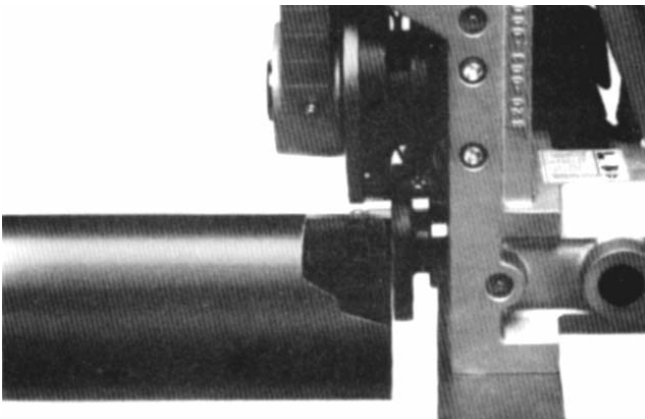

Figure 10 – Close-Up of Pipe Against Drive Roll Flange
3. Square pipe and pipe support to roll groover making sure pipe is flush against drive roll flange. (Figure 10)